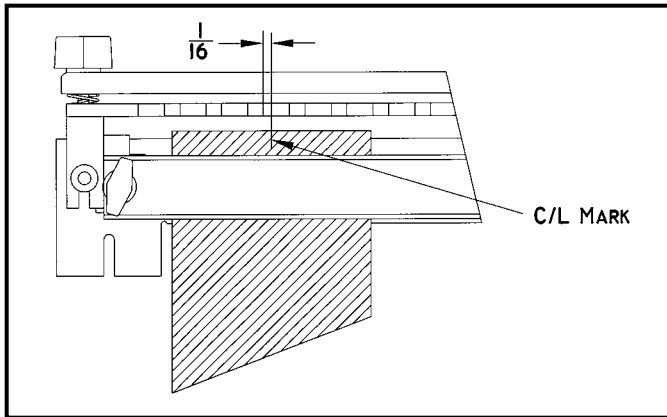

Fig. 20
4. Mark center of board to be routed under front clamp, up against bottom of box templet. Locate center mark 1/16" to the right of the templet finger slot that is closest to the left end of the templet (see Fig. 20).